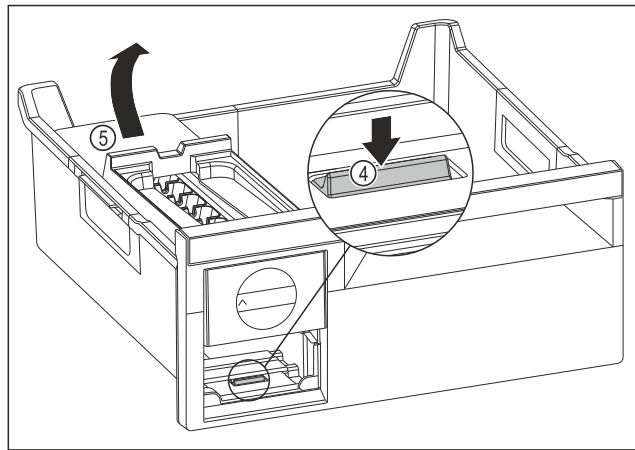

Fig. 148
- ▶ Removing the EasyTwist-Ice body: Use your finger to push the tab Fig. 148 (4) down and use your other hand to lift the EasyTwist-Ice body Fig. 148 (5) from behind at the same time.